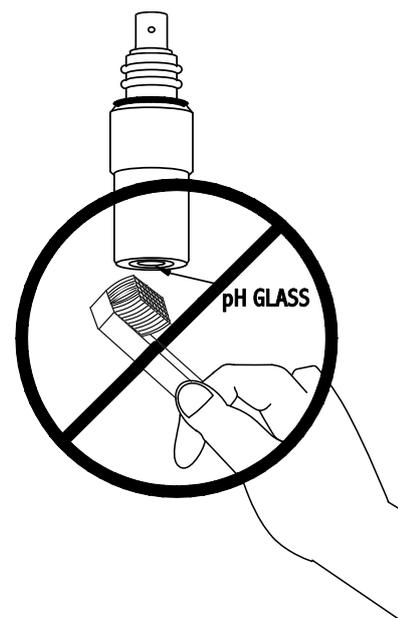

FIG. 3
3. After exposure to a sample, buffer or rinse solution, carryover can be minimized by blotting-never by wiping-the electrode with a clean, non-abrasive paper or a clean cloth towel. **DO NOT USE A BRUSH ON pH GLASS** (See FIG 3).